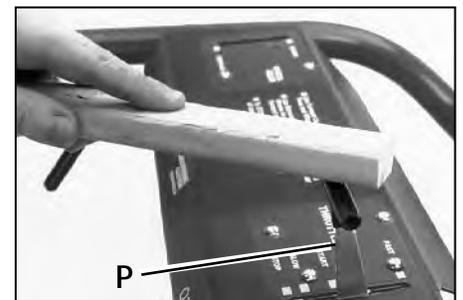

Figure 2-13: Attach engine throttle lever.
1. Route the throttle cable up the right-side handlebar and insert the lever (P, Figure 2-13) up through the slot in the control panel that is labeled "ENGINE THROTTLE."
4. Place the "T" shaped engine throttle lever knob on the end of the lever and use a board to tap the knob down until it seats firmly on the lever (See Figure 2-13).